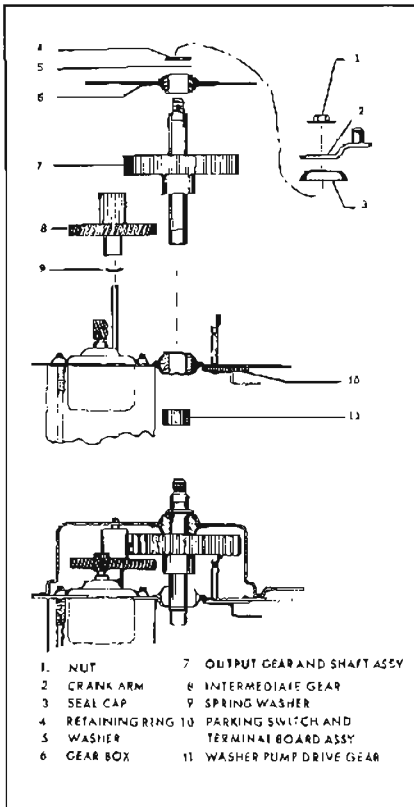

Figure 10-81—Gear Box Assembly
5. Remove output gear and shaft assembly, then slide intermediate gear and pinion assembly off shaft. (Figure 10-81).